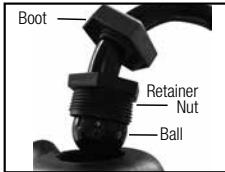

Figure 2
3) Disconnect linkage arm from the top of the pump assembly (see section covering Installing The Pump Handle). (Figure 2).